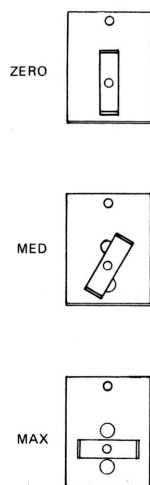

FIG.9
The idle air adjuster (D) controls the minimum amount of air that enters the firebox. Adjustment is made by turning the adjuster vertical for zero idle air, or horizontal for maximum idle air. It is best to start out with a medium setting as shown in Figure 9.